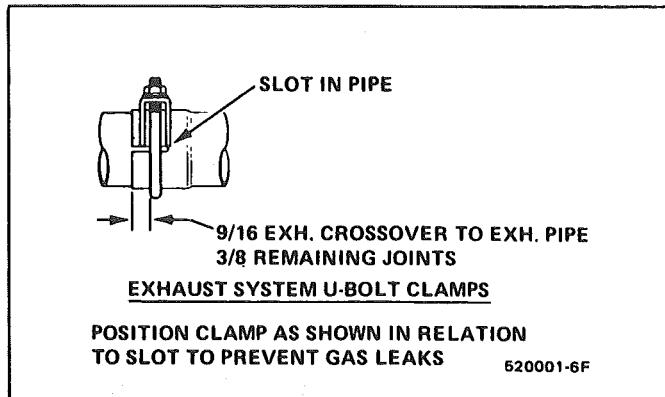

Fig. 1 Installation of Exhaust System Clamp
Two methods are used for connecting exhaust system slip joins, (1) clamp and (2) weld. When servicing a welded connection it should be cut and the new connection clamped when installing replacement parts. Also, coat slip joints with exhaust system sealer before assembling (Fig. 1).